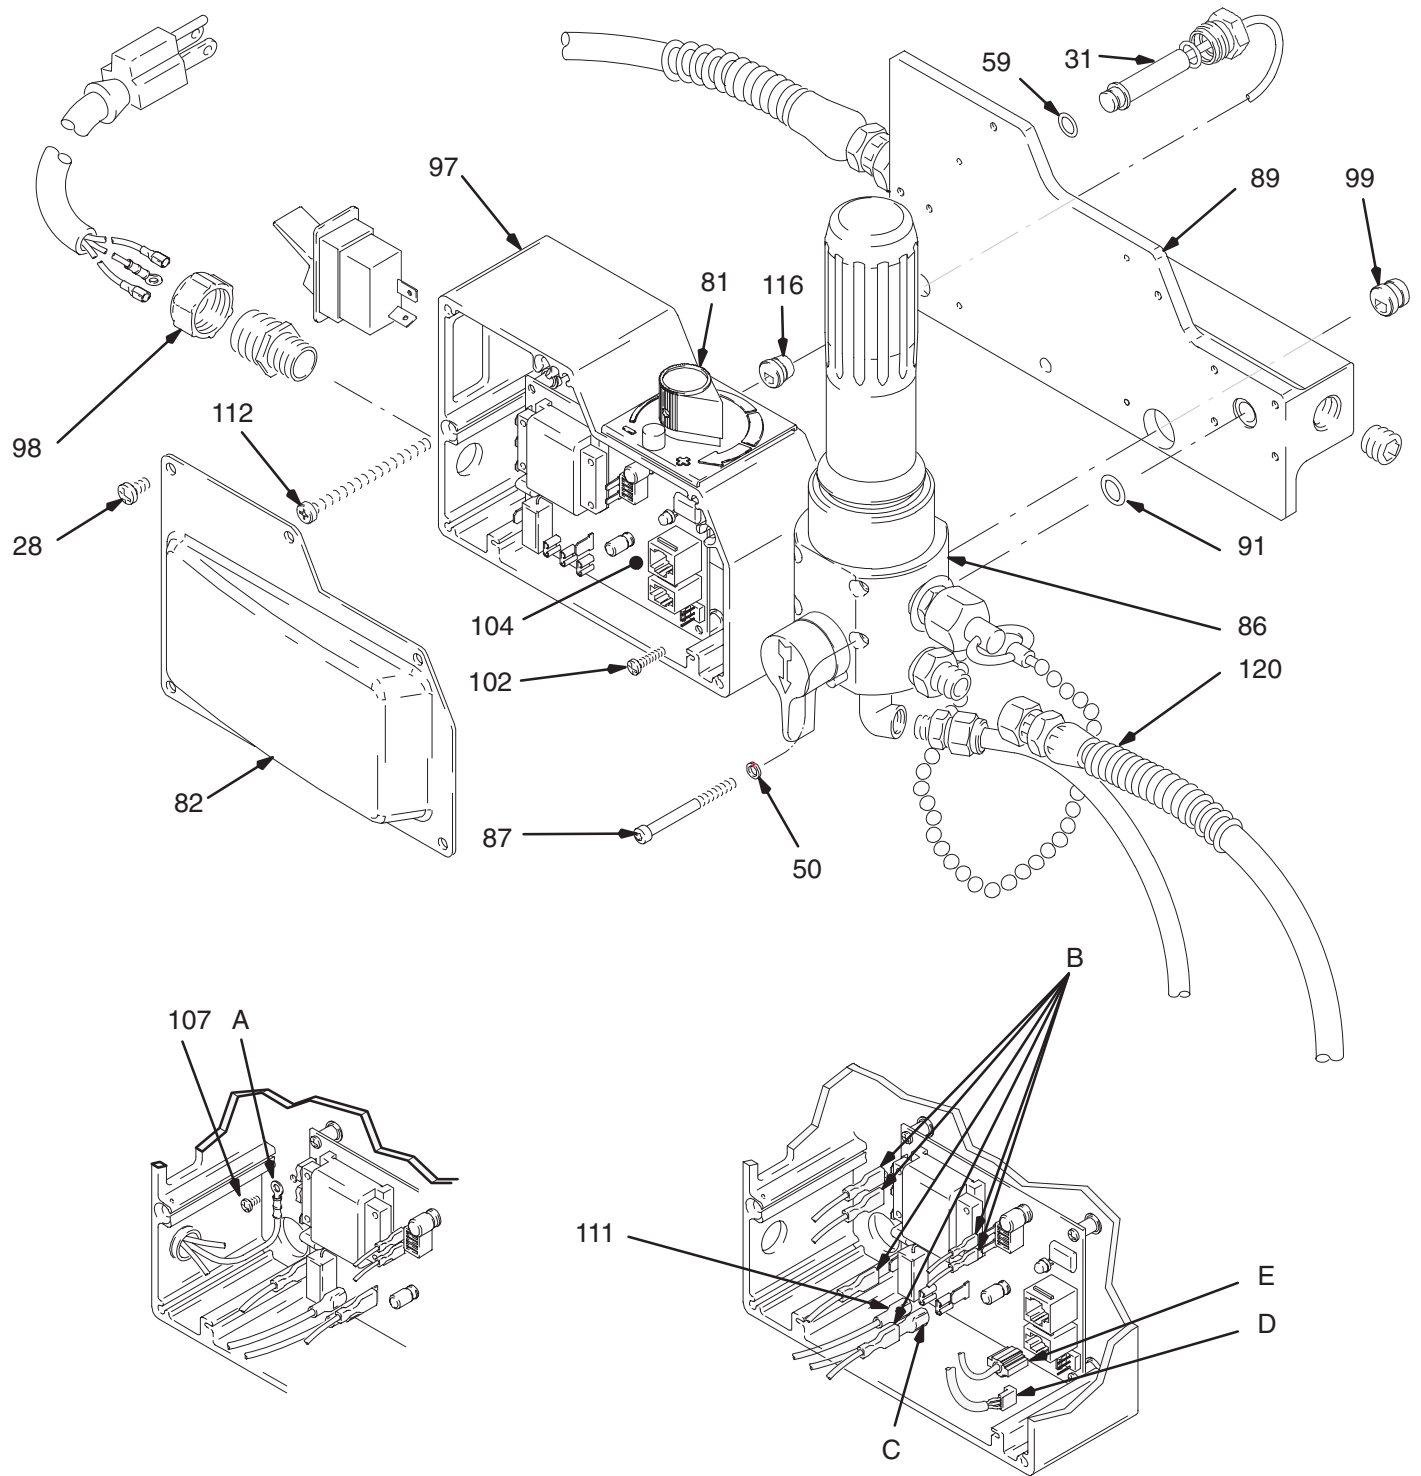

Fig. 16
2. Fig. 16. Install motor control board (104) with four screws (102) and washers (103).
- Lead (E) to transducer.
- Lead (D) to potentiometer.
- Lead (111) to ON/OFF switch.
- Lead (C) to power cord.
- Six motor leads (B).
4. Install cover (82) with five screws (28).
2. Fig. 16. Remove five screws (28) and cover (82).
- Lead (C) from power cord.
- Lead (111) from ON/OFF switch.
- Lead (D) from potentiometer.
- Lead (E) from transducer.
4. Remove four screws (102), washers (103) and circuit board (104).
2. Remove five screws (28) and cover (82). See Fig. 16.
3. Disconnect lead (E) from motor control board (104).
4. Remove strain relief bushing (116).
5. Remove pressure control transducer (31) and packing o-ring (59) from control housing plate (89).
2. Fig. 16. Install packing o-ring (59) and pressure control transducer (31) in control housing plate (89). Torque to 30–35 ft-lb.
3. Install strain relief bushing (116).
4. Connect lead (E) to motor control board (104).
5. Install cover (82) with five screws (28).
3. Disconnect lead (D) from motor control board (104).
4. Remove potentiometer knob (81), sealing shaft nut (106) and pressure adjust potentiometer (105).
2. Fig. 16. Install pressure adjust potentiometer (105), sealing shaft nut (106) and potentiometer knob (81).
3. Connect lead (D) to motor control board (104).
**NOTE:** Read **General Repair Information** on page 16 before doing this procedure. See Fig. 16 and 19.
2. Remove motor shield (54).
3. Remove pressure control cover (82). Disconnect six motor leads (B). See figure 16.
4. Remove strain relief (99) by pushing from behind and into the control box. Pull motor wires bundle through pressure control opening. See figure 16.
5. Remove front cover (49).